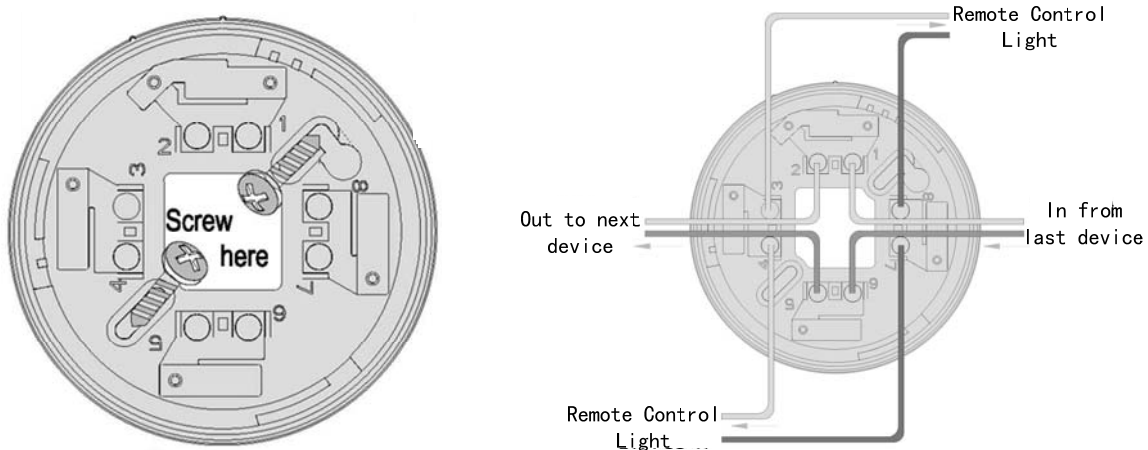

Fig.1 LF-X5980 base structure and the terminals connection diagram
1. Install the base in the position where the Addressable Sounder Base will be installed. Following the arrow mark for the correct position. Do not over-tighten the screws otherwise the base will twist. Use M4 standard screws. Terminals 1 and 6 are the bus signal inputs for connection to the last device. Terminals 2 and 5 are the bus signal outputs for connection to the next device. Terminals 3&8 or 4&7 are used to connect remote indicators, Where terminals 3&4 are positive and terminals 7&8 are negative. LF-X5980-type base structure and the terminals connection diagram as shown in Figure 1.